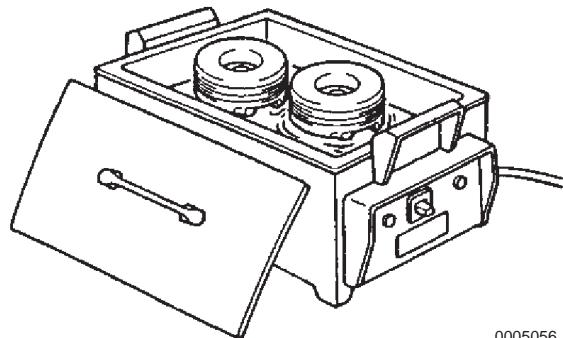

Figure 5-133
2. Slowly heat the piston to about 80°C (176°F) (Figure 5-133).